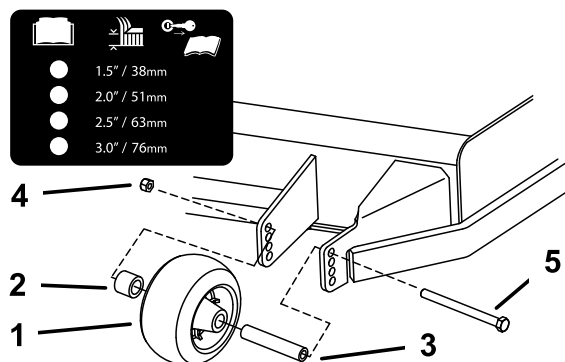

Figure 19
4. Ensure that the spacers and bushings are installed (Figure 19).